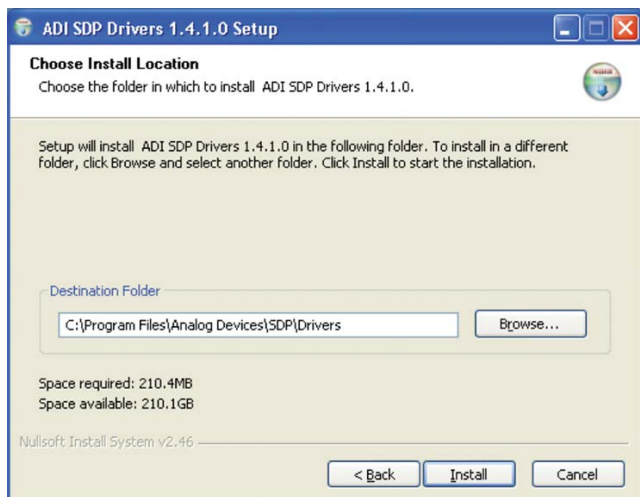

Figure 11. Selecting the Location for the Drivers Installation
2. Select the location to install the drivers and click **Next** (see Figure 11).